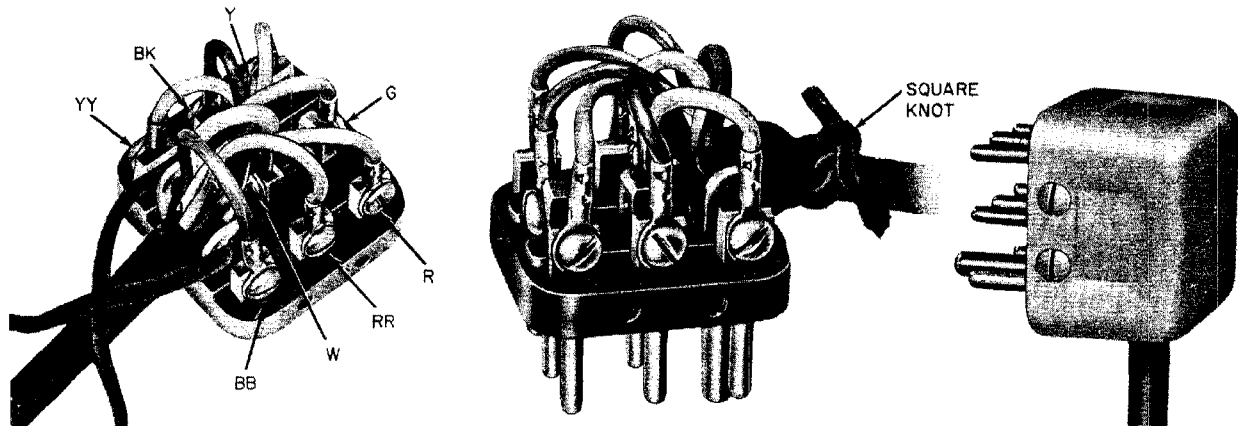

Fig. 5—274A Plug
2.06 The 274A plug (Fig. 5) is a 2-piece, 8-contact plug of molded plastic. It is intended for use with braided fabric covered mounting cords and is equipped with two eyes to which the braid is secured. It is available in color as shown in Table B.